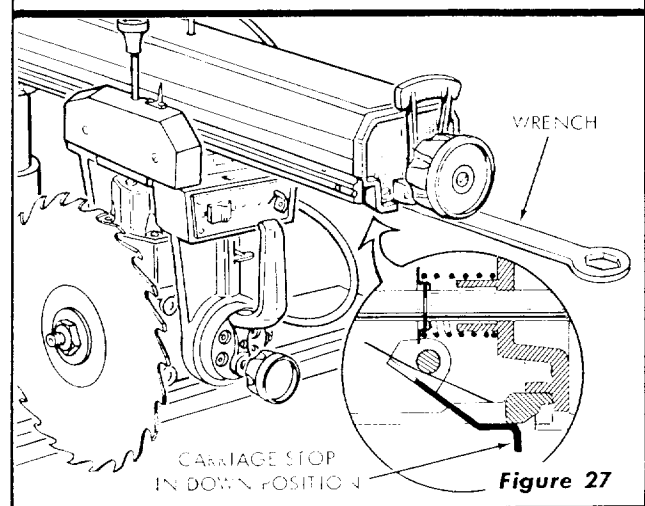

Figure 27
2. Insert the handle end of the arbor wrench (or shaft wrench) between the lower surface of radial arm and carriage to raise the carriage stop. (See figure 27.) The wrench need not be held, as it will remain in place when released.
CAUTION: Make sure the carriage stop returns to correct down position after installation of motor and carriage assembly. (See figure 27.)
3. Insert the handle end of the arbor wrench (or shaft wrench) between the lower inner surface of radial arm and carriage to raise the carriage stop. (See figure 27.) The wrench need not be held, as it will remain in place when released.